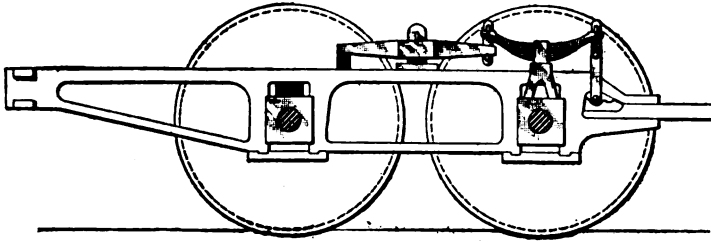

FIG. 28.
60. In the event of the back driving spring or spring hanger breaking on an eight-wheeled engine having overhung rigging, as in Fig. 28, run the back wheel up on a wedge to take the strain off the main spring, pry the back end of the equalizer up level and block it there; next run the back wheel